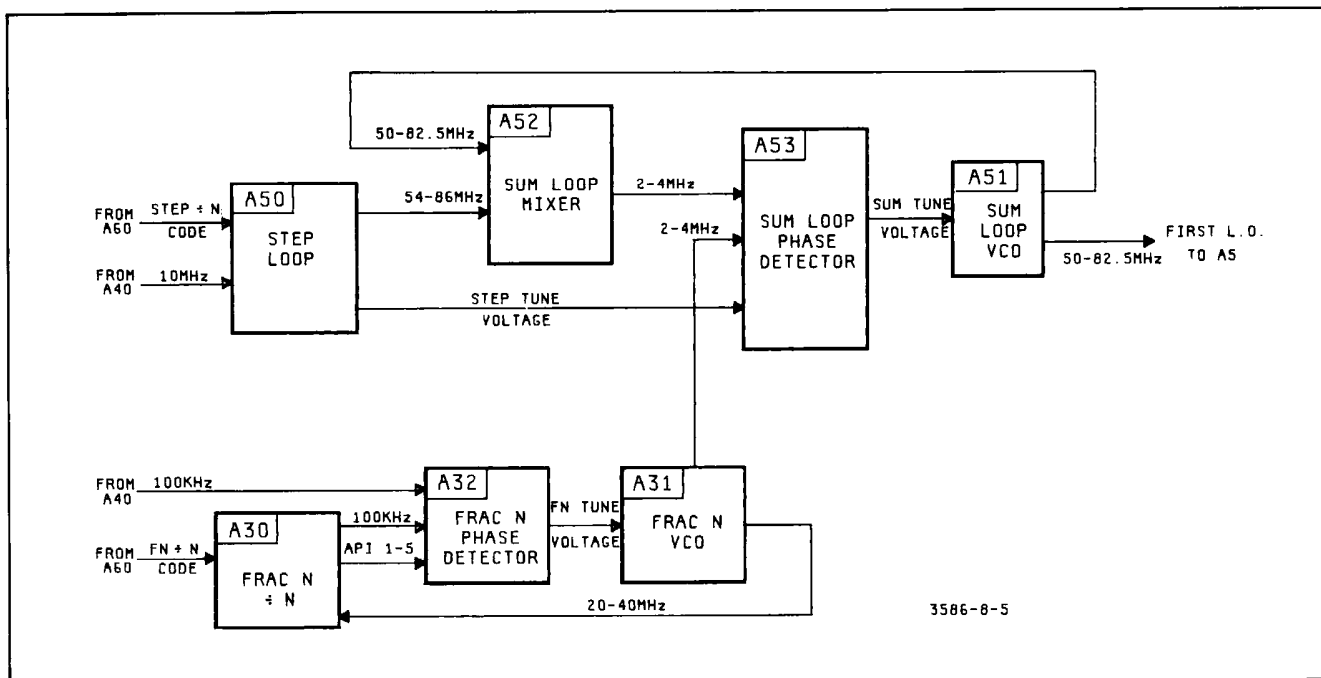

Figure 8-6. First Local Oscillator.
8-198. The first L.O. signal (50-82.5 MHz) in the 3586A/B/C is generated by seven separate P.C. boards comprising three separate loops: Step, Sum and Fractional-N. Refer to Figure 8-6. The Step Loop (A50) locks up under processor control to 54-86MHz in exactly 2MHz steps depending on the desired L.O. frequency. The step frequency is mixed with the present L.O. frequency (50-82.5 MHz) in the Sum Loop Mixer (A52) to produce a difference frequency between 2 MHz and 4 MHz which is one input to the Sum Loop Phase Detector (A53). The other input is a 2-4 MHz reference signal from the Fractional-N Loop. The Fractional-N VCO (A31) locks up under processor control to a precise frequency, with 1 Hz resolution, between 20 MHz and 40 MHz. This frequency is then divided-by-ten to produce a 2-4 MHz reference input to the Sum Loop Phase Detector that has 0.1 Hz resolution. The phase difference between the two 2-4 MHz inputs produces a DC tuning voltage which changes the frequency of the Sum Loop VCO (A51) to the exact desired L.O. frequency in the range 50-82.5 MHz. The Step tuning voltage, besides tuning the Step Loop VCO, is fed to a voltage comparator in the Summing circuits as a reference for the Sum tuning voltage. This provides the coarse frequency stepping of the Sum Loop VCO while the Fractional-N Loop provides the fine frequency control. The Sum Loop VCO output (50-82.5 MHz) has the exact same frequency resolution and stability as the 2-4 MHz from the Fractional-N VCO.
8-223. The Fractional-N (FN) circuits form a phase-locked loop that operates at a selected frequency between 20 MHz and 40 MHz under processor control. Refer to Figure 8-6. The FN VCO frequency is passed through a divide-by-ten circuit and the resulting 2 MHz to 4 MHz signal, with 0.1 Hz resolution, becomes the variable reference input to the Sum loop phase detector. The FN logic circuits provide precise control of the FN VCO to obtain the exact desired frequency with 1 Hz resolution. The $\div 10$ circuit then provides 0.1 Hz resolution. Three PC boards contain the FN circuitry: A31 (FN VCO), A32 (FN Phase Detector), A30 (FN $\div N$).